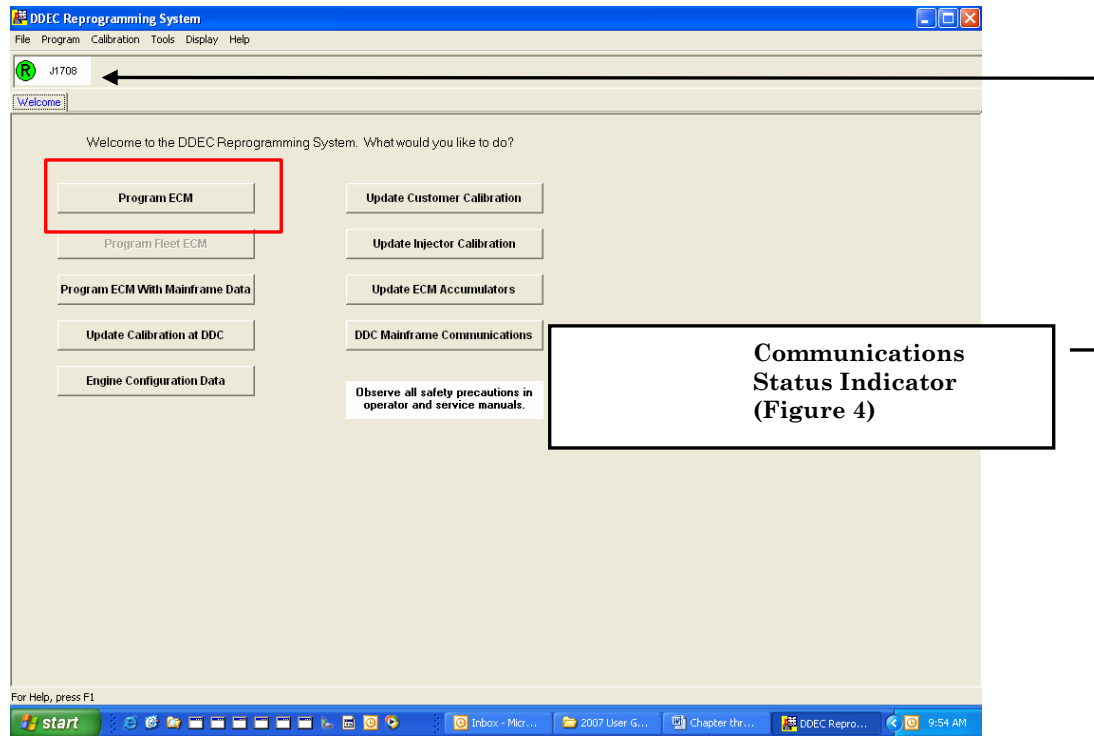

Figure 3
3. After the ECU is powered up and has finished booting, the **Communications Status Icon** on the upper left corner of the “DDEC Reprogramming System” screen (Figure 3) will change from red (off-line) to green with a letter "R" (on-line in "Running Mode"). When the green light is displayed, click on the **Program ECU** button in the "Welcome Panel" (Figure 3).